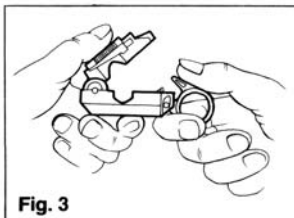

Fig. 3
- B. Open tool by rotating locking latch downward. (fig. 3).